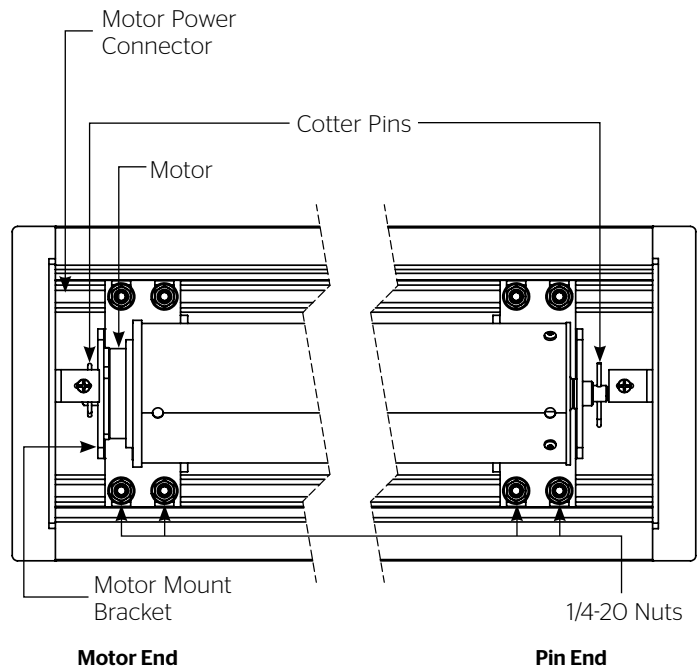

Figure 2
3. To install screen and roller assembly, loosen (but do not remove) four 1/4-20 nuts securing pin end bracket (opposite end from the junction box) to the case housing. Slide the pin end bracket towards the end of the case (Figure 2).
4. Insert the motor end square shaft into the motor end bracket (junction box end) and secure with the cotter pin (Figure 2).
5. Moving to the pin end of the case, slide the pin end bracket until the hole fits securely over the pin and secure with the cotter pin. Tighten the 1/4-20 nuts on the pin end bracket securely (Figure 2).
6. Complete electrical hook-up by snapping motor wire connector into case connector (Figure 2).